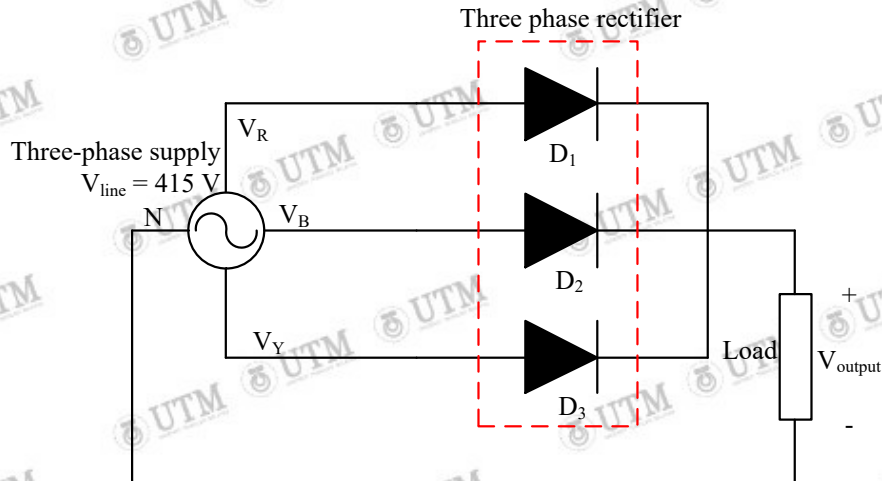

Figure Q1(d) / Rajah Q1(d)
- (d) The three phase half wave uncontrolled bridge rectifier in Figure Q1(d) use ideal diodes with supply line voltage,  $V = 415 \text{ V}$  and a resistive load of  $R = 15 \text{ } \Omega$ . Draw input and output voltage in same paper graph and calculate: